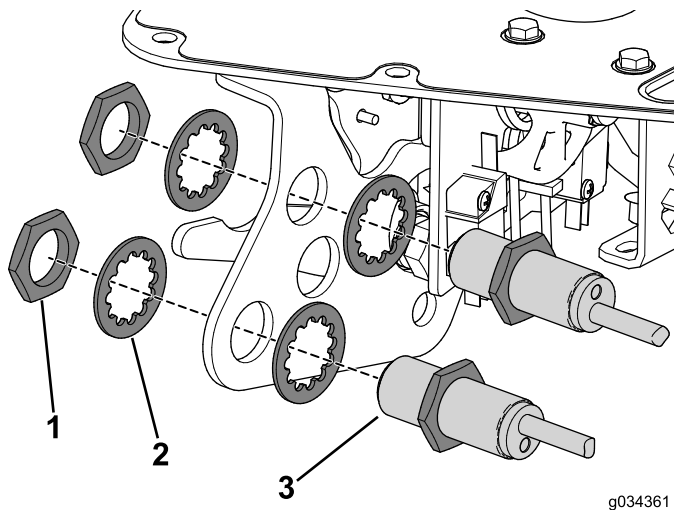

Figure 7
5. Remove the nuts securing the proximity sensors to the function-lever bracket (Figure 7).